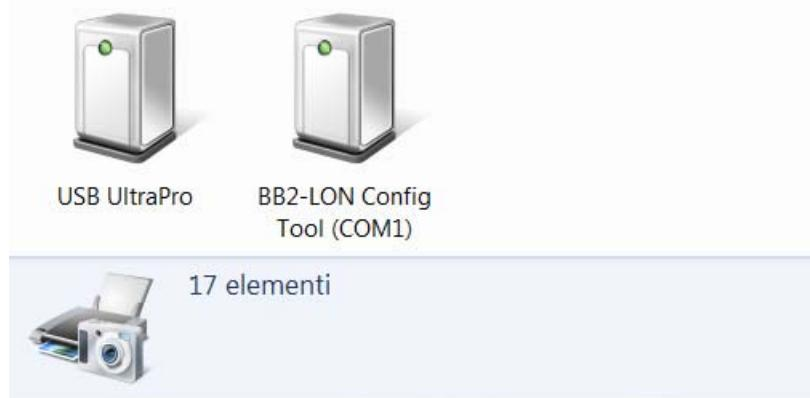

Figure 5: Devices and printers
3. Choose as Device BB2-2010, the communication port COM associated with the USB port (to know the number of the COM on Windows: Start->Devices and printers, see Figure 5), then press "Connect".